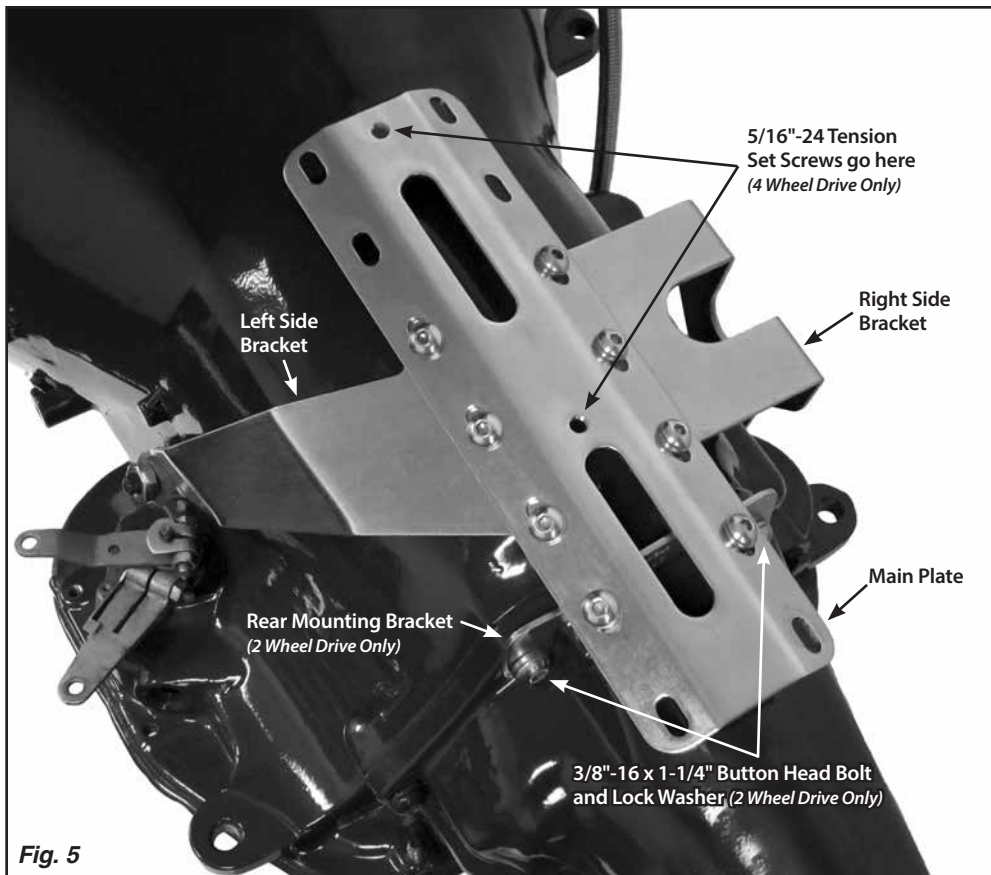

Fig. 5
**Step 7: (All)** Tighten all of the bolts on the left, right, and rear (2 wheel drive only) mounting brackets. **Fig. 5**